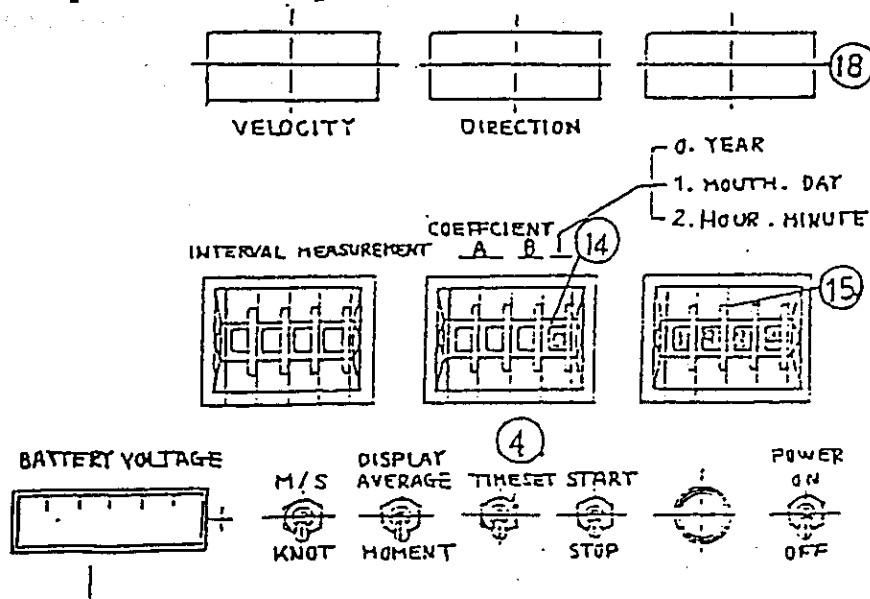

Fig. 7-1 Year setting
Set (14) Y.M.H. select switch to 0, set (15) Y.M.H. setting switch to AD NNNN, and turn on (4) TIMESET switch. Set value is displayed on (18) Y.M.H. display. Fig. 7-1 is an example in which year is set to 1984.